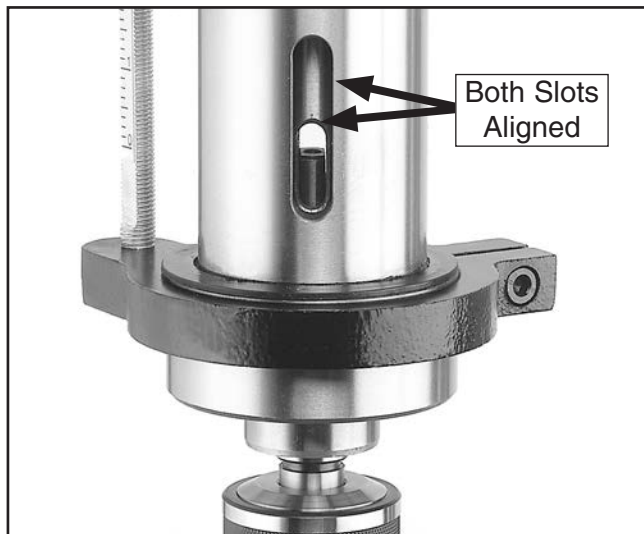

Figure 35. Inner and outer drift-key slots aligned.
5. Rotate the spindle until the inner drift-key slot is aligned with the outer slot, as shown in **Figure 35**. You will see through the spindle when the slot is properly aligned.